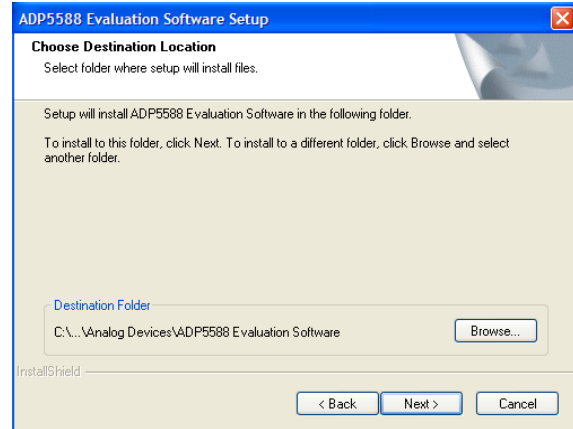

Figure 6. Choose Destination Location
3. When the screen in Figure 6 appears, click **Next >** to install the files to the default destination folder or browse to choose a different destination.